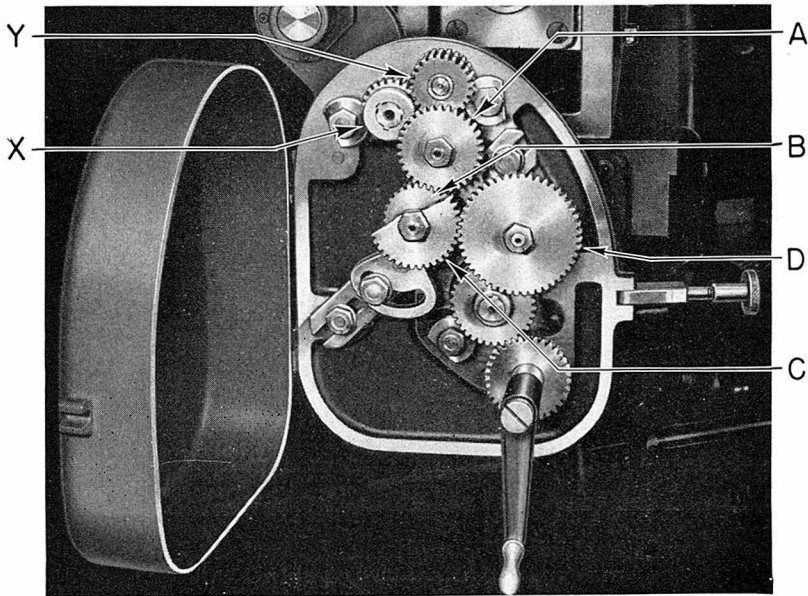

Figure 37
Cincinnati Dividing and Spiral Milling Heads are used extensively in milling spiral and helical gears, constant velocity drum cams, etc. The manner of transmitting motion to the spindle in the head is the same for both types, but the construction of the main castings are entirely different. The Dividing Head is designed so that its spindle can be swiveled vertically, while the spindle of the Spiral Milling Head is rigidly fixed in a one-piece housing to provide an attachment suitable for heavy and continuous helical milling. Change gears are the same for both types of heads and therefore the tables and instructions in this booklet apply to both types, *but the driving mechanism units (Figure 37) are not interchangeable from one to the other.*
**Emergency Conversion to Short Leads.** With the standard driving mechanism illustrated in Figure 37, leads lower than those listed in the tables, pages 100 to 116, can be obtained, using hand feed only (rotating the index crank at the side of the head). To change the gearing for low leads, remove gear "D". A 34 tooth gear is now exposed, meshing with the 34 tooth gear on the lead screw (directly below gear "D"). Remove these two 34 tooth gears, and replace them with the standard 51 tooth change gear on the lead screw and the standard 17 tooth change gear on the stud for gear "D". Instead of a 1 to 1 ratio, we now have a speed-up of 3 to 1. Leads for the change gear combinations listed are now divided by 3. *Caution:* Some of the change gear combinations are not obtainable because of interference with the segment.